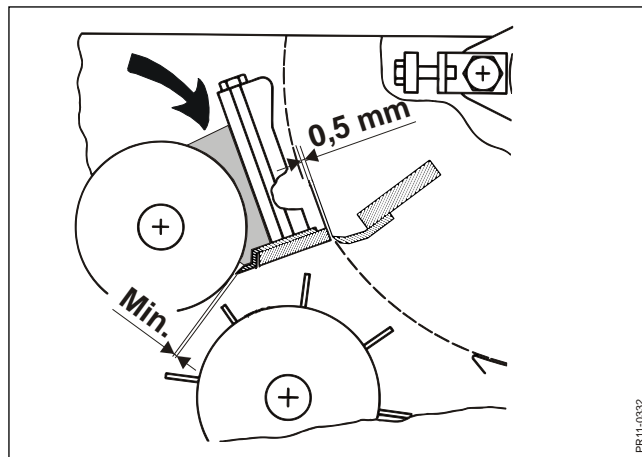

Fig. 4-18
**Fig. 4-18** Crop substances (small particles) can accumulate in the shaded area under certain circumstances and become so compacted that it causes the transmission driving the rollers to overload.